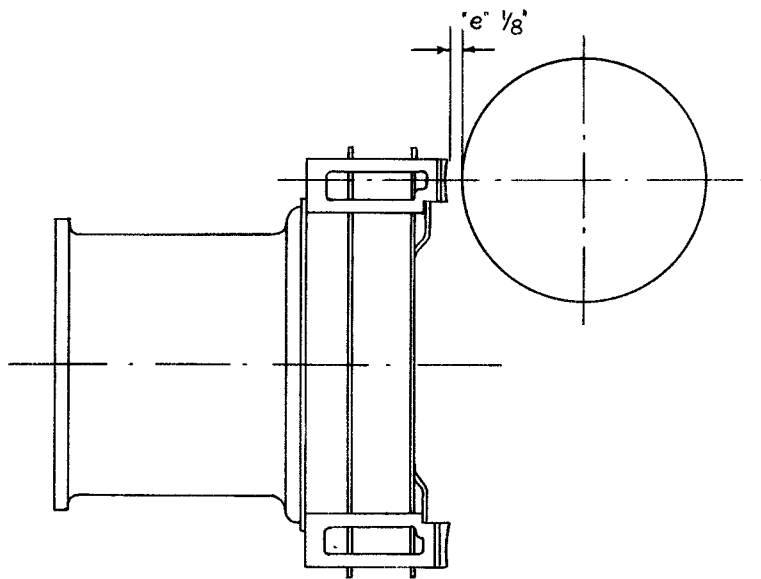
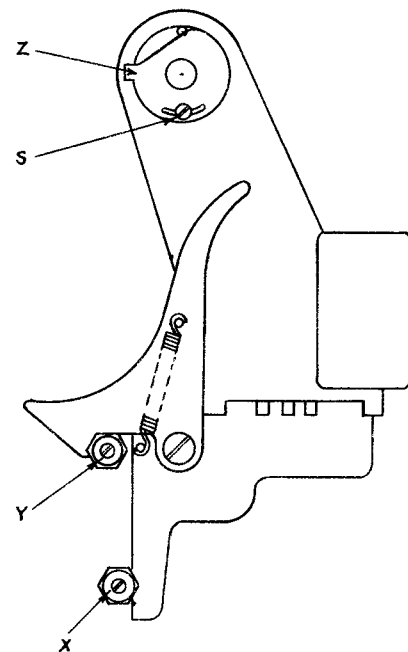

FIG. 38
FIG. 39
58. WHEN THE PAPER CARRIAGE IS LATCHED IN POSITION IT SHOULD NOT UNLATCH UNDER PRESSURE AT R.H. END WITHOUT THE LATCH FIRST HAVING BEEN DISENGAGED. DIMENSION "e" (FIG. 38) SHOULD BE CORRECT. ADJUST BY THIS ECCENTRIC & CLAMP SCREW X (FIG. 39). THEN ADJUST THE UPPER SLEEVE UNTIL THE LATCH FUNCTIONS CORRECTLY, LOCKING BY SCREW Y.